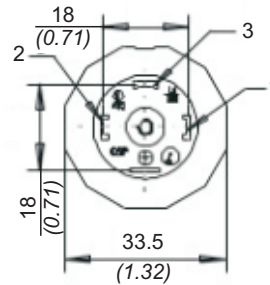
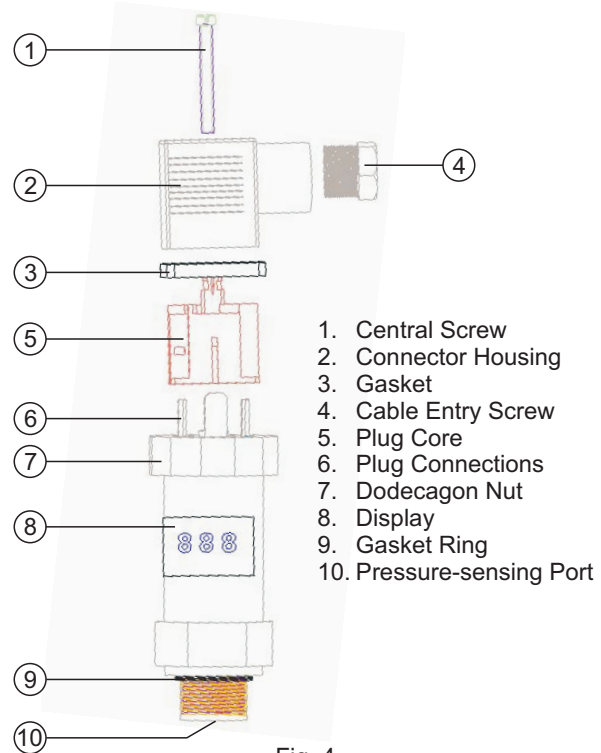

Fig. 3
Fig. 4
WIRING : (Refer chart 1, fig 3 & fig 4.)
- 1) To remove the DIN connector, loosen the central screw (1) on top of the connector with phillips screw driver.
- 2) Hold the connector housing (2) with fingers and pull it out gently from the plug. (6)
- 3) Turn the removed connector upside down and insert a small flat screwdriver into a slot in the corner marked "lift" and give a slight pull until plug core (5) comes out from connector housing (2).
- 4) To connect the cable, insert the cable through cable entry screw (4) and connect the wire to terminal 1 & 2 only (Ref fig 3.). (Please choose Φ 4.5 - 7mm shield cable and connect the cable firmly to prevent short circuit).
- 5) Pull the cable slightly and push the plug core (5) gently into the connector housing (2) (a rattling sound could be heard) then hand tighten the cable entry screw. (4)
- 6) Relocate the gasket (3) back to the original position in order to maintain ingress protection class.
- 7) Now connect the DIN connector to the plug and tighten the central screw. (1)
Isolate the transmitter electrically. Check the connections of terminal 1 & 2 (Ref fig 3.) and the screws fitted to the plug core, check the short connections elsewhere in the circuit.